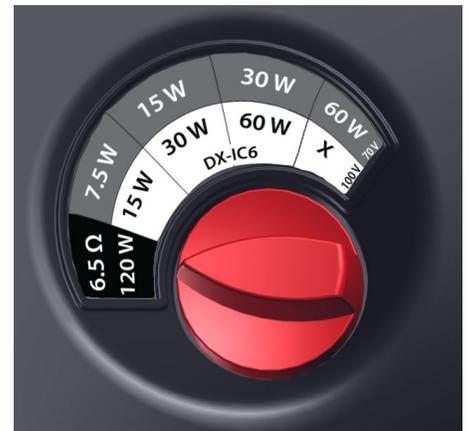

Figure 6. Set tap
13. Set tap switch by rotating knob to the desired setting. (DX-IC6 shown in Figure 6).